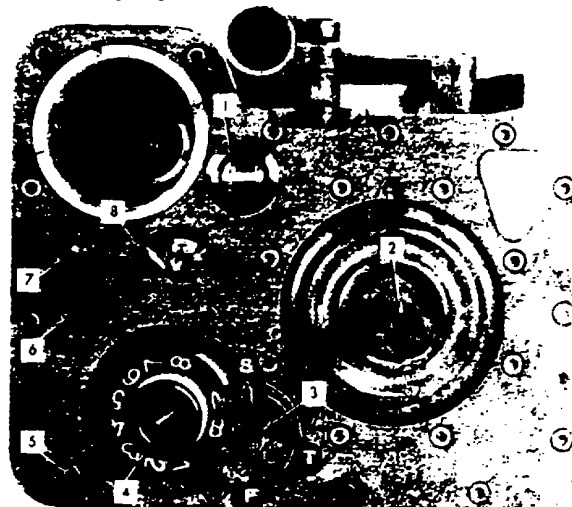

Figure 9. ENTAC GCTU - Controls and indicators.
Refer to table 5 and figure 9 for the controls and indicators of the ENTAC GCTU.
**Table 5. ENTAC Guidance Control Training Unit-Controls and indicators (fig. 9)**